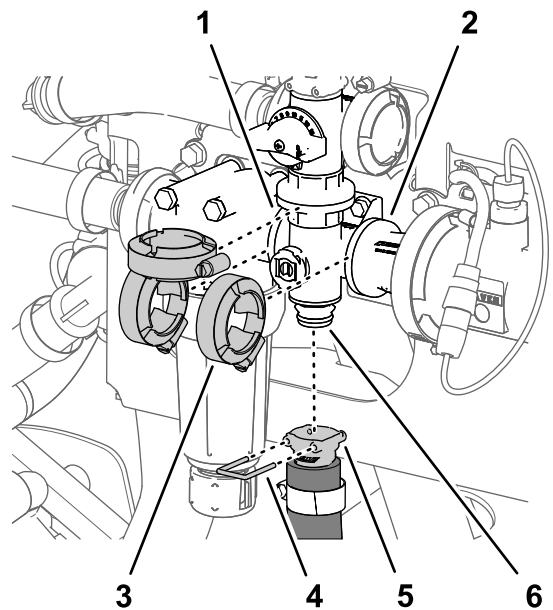

Figure 110
- Remove the quick connect pin that secures the quick-connect coupler for the agitation hose to the manifold for the agitation valve (Figure 110).
- Remove the 3 flange clamps that secure the agitation-valve manifold to the flanges of the pressure-filter head and the coupling adapter (Figure 110).